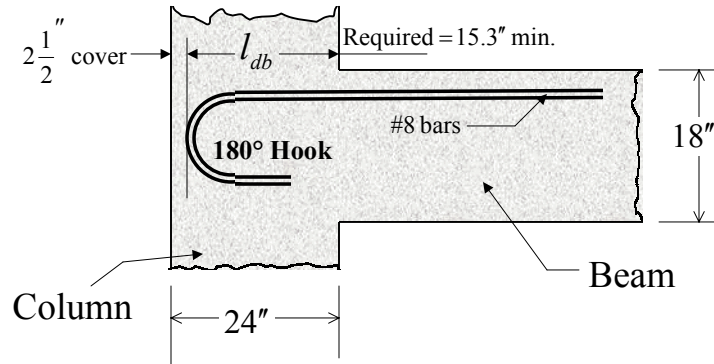

Figure 4. Detailed Sketch for Example 1
- Figure 4 shows the detailed sketch for the development length.